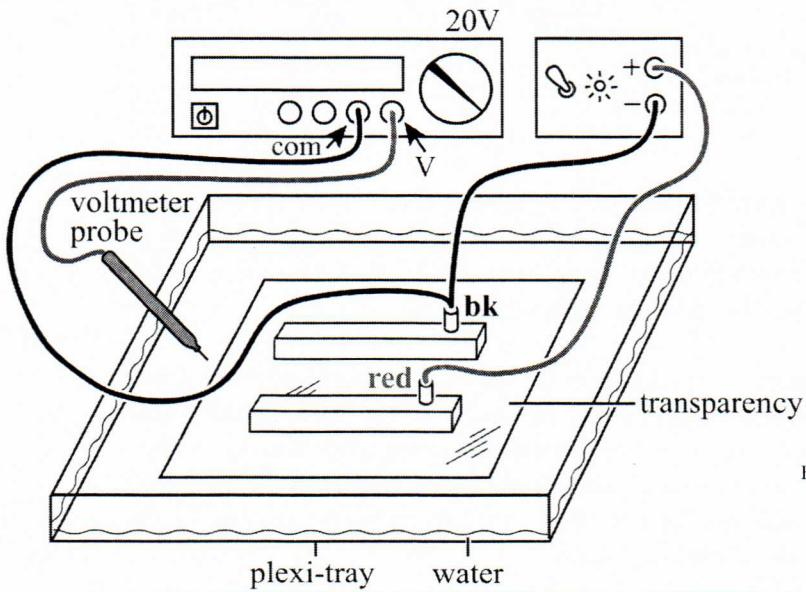

Figure 2.6 The experimental set up for lab 2.
2. Figure 2.6 shows the basic set up and wiring. Place the marked transparency into the tray. Place the bars on top of their traced outlines. Fill the provided beaker with water and then pour into the tray so that it is about half-full, with no islands of dry tray. Use the plastic putty knife to smooth out the transparency and remove any air bubbles.